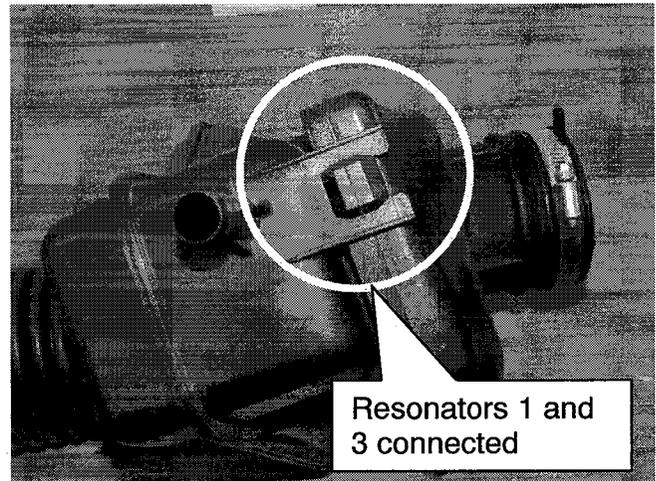

Figure 8
14. Make sure resonators 1 and 3 are connected as shown in Figure 8.